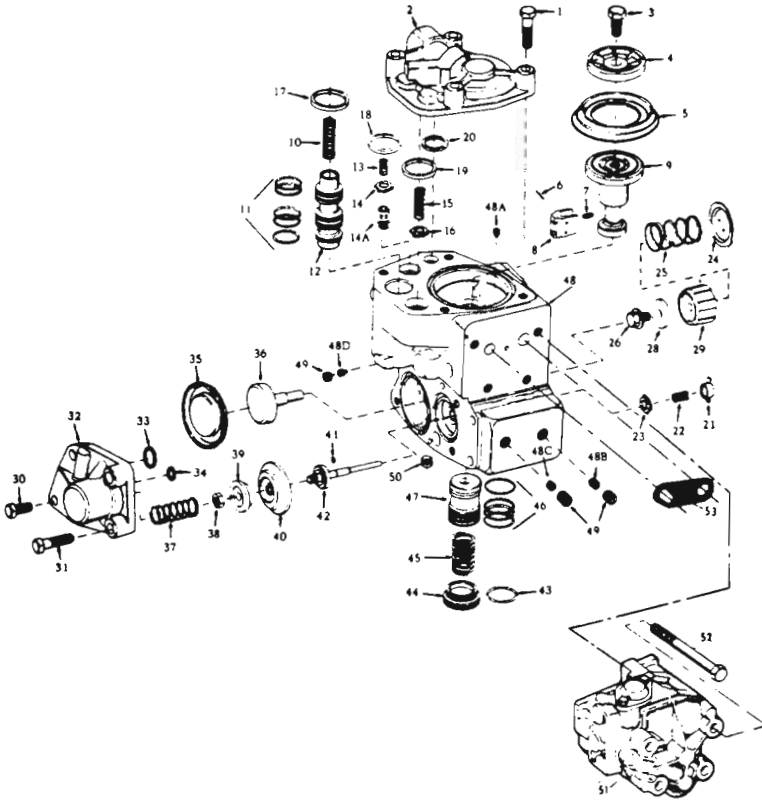

Figure 24
9.4 "ABDW" Control Valve Emergency Portion Parts (See Figure 24)